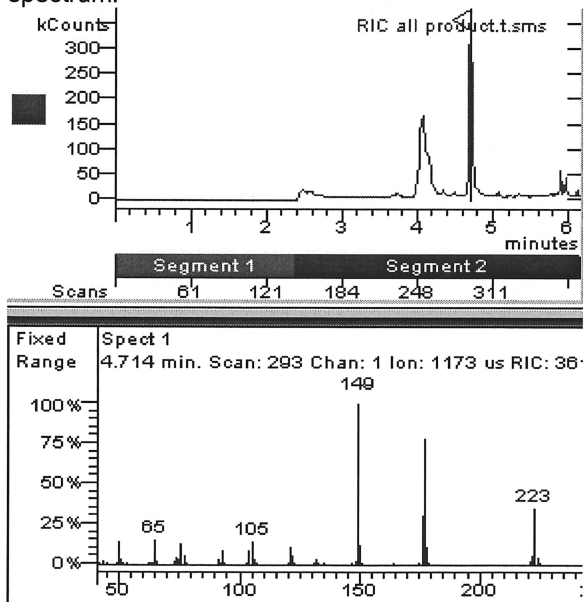

Fig.1
A GC/MS consists of two machines, the Gas Chromatograph (GC), and the Mass Spectroscopy (MS). The chromatogram, Fig. 1, is produced by the GC, showing the separation by number of molecules eluted over time and is a continuous line with peaks. The spectrum, Fig. 2, is produced by the MS, one for every second, and shows each identified ion mass and the relative number of ions found there. The flag in the chromatogram indicates the position at which the spectrum is taken. Large peaks, like in the chromatogram, give relatively little background noise, which is seen by the lack of small peaks in the spectrum.